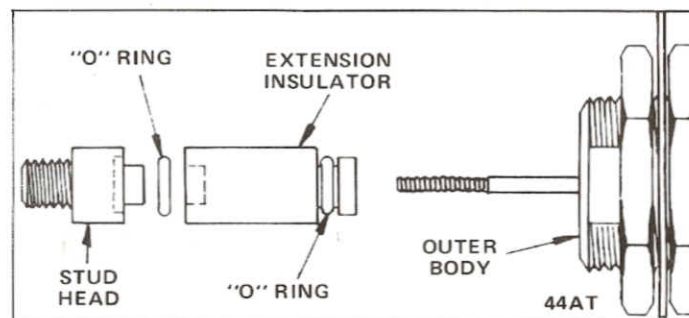

FIGURE 6
**STEP 6.** For 44AT, apply thin coating of silicone grease to "O" ring and place ring onto extension insulator as shown in Figure 6. Slip assembly into outer body. See that "O" ring is properly seated inside. Apply silicone grease to other "O" ring and place ring into groove of stud head. Screw stud head onto inner connector and tighten. Do not deface stud head.